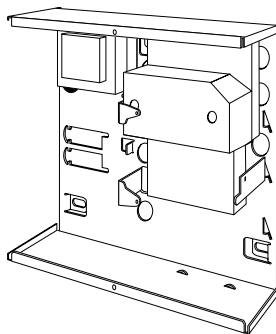

Figure 16. Fitting a Plug-by Communicator
2. Detach the main PCB from the support pillars in the control unit case, and lift the PCB carefully to the left. Fit the communicator between the PCB support pillars, making sure that the main PCB can fit back into position (see Figure 16).